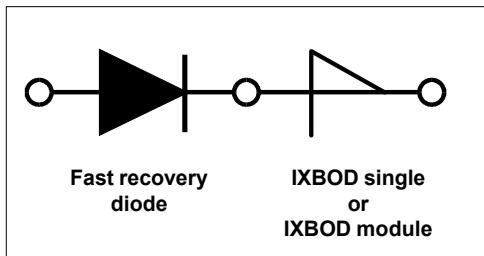

Fig. 9 IXBOD protection by a fast recovery diode.
2. For higher reverse voltages a fast, soft recovery diode must be connected in series (Fig. 9). This diode must fulfill the conditions of Fig. 10.